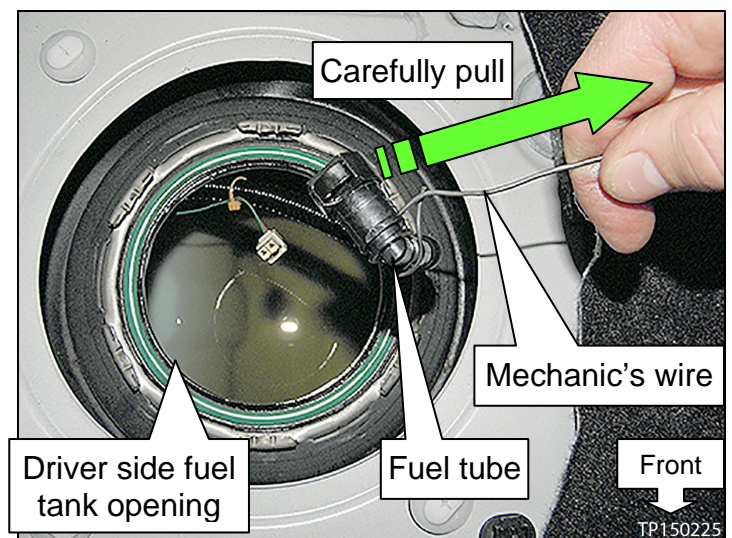

Figure 13a
23. Route the fuel tube by carefully pulling the other end of the mechanic's wire located at the driver side fuel tank opening (see Figure 13a).